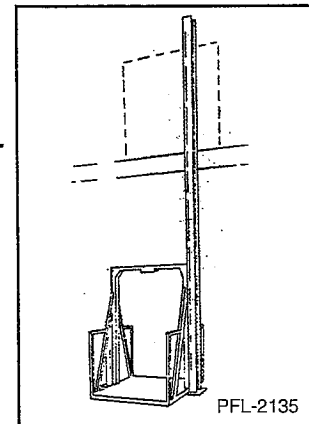

Figure 9
2. Raise right hand column into position. See Figure 9.